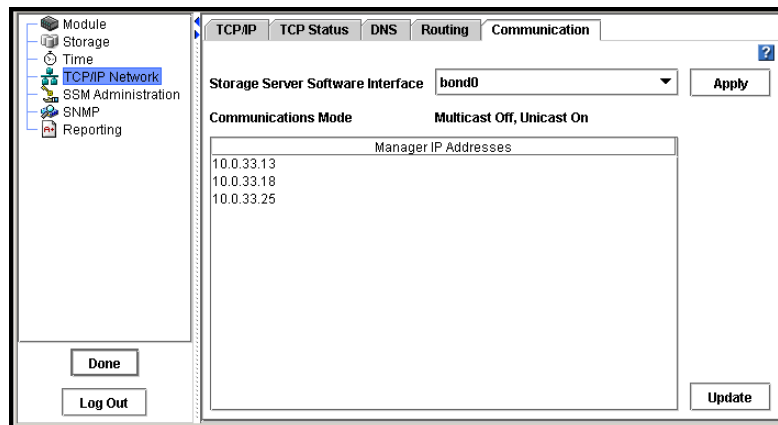

Figure 90. Selecting the Storage System Software Network Interface and Updating the List of Managers
3. Click the Communication Mode tab to bring it to the front, shown in Figure 90.
2. Click the Communication Mode tab to bring it to the front, shown in Figure 90.